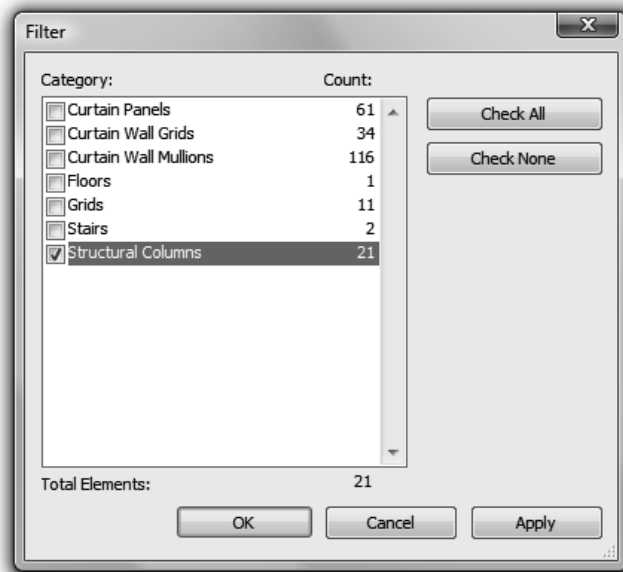

FIGURE 7-3.10
18. Click the **Check None** button; see Figure 7-3.10.
19. Check the **Structural Columns** category; see Figure 7-3.10.